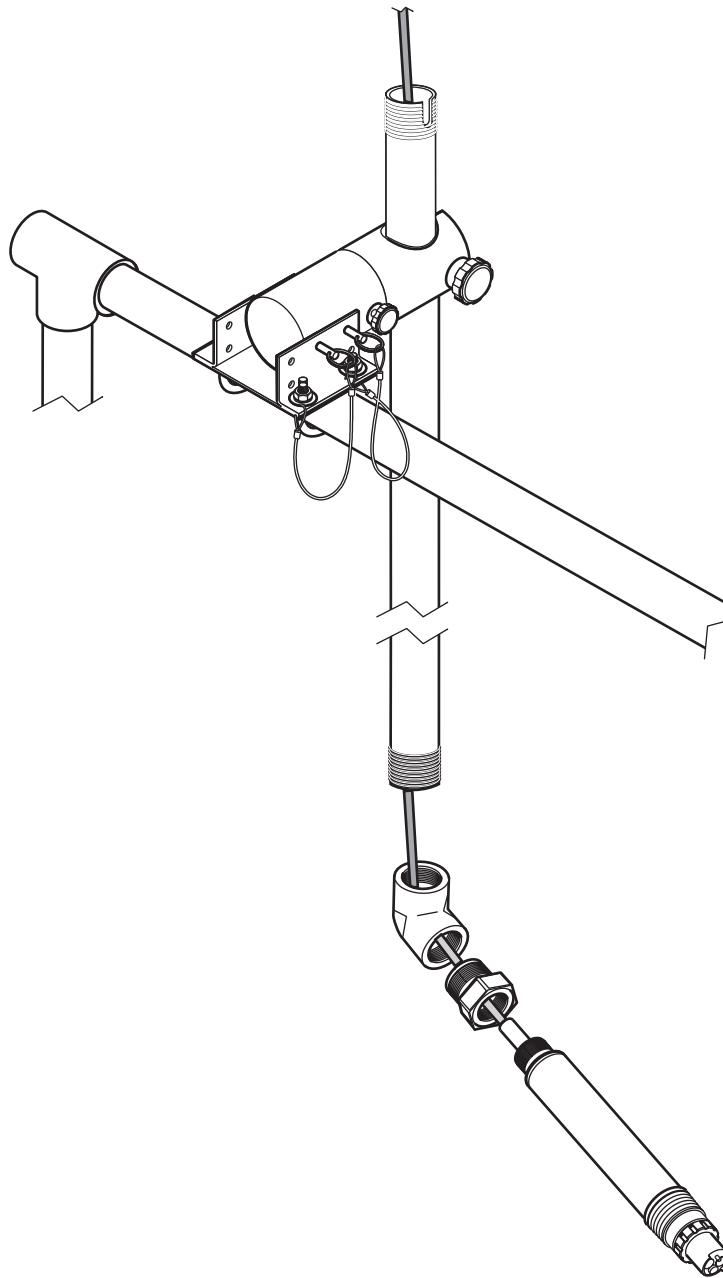

Figure 7 Installing the sensor
- Installing the sensor without a cleaning unit—Guide the sensor cable through the reducer, the elbow and the immersed pipe. Bolt all the pieces together (Figure 7 on page 5). When installing the sensor without a cleaning unit, fit the plug from the set of small parts above the sensor cable.